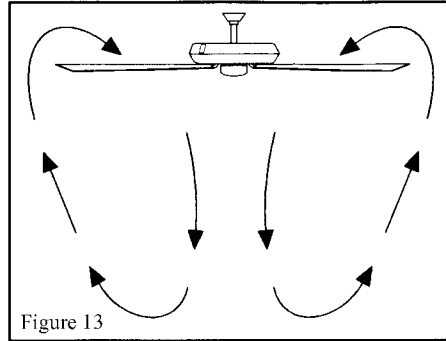

Figure 13
**Warm weather** – (Forward) A downward air flow creates a cooling effect as shown in Figure 13. This allows you to set your air conditioner on a higher setting without affecting your comfort.